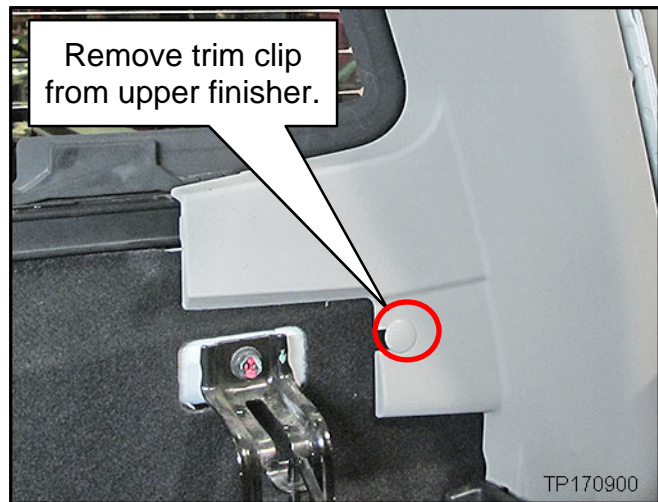

Figure 6
6. Gently remove the trim clip shown in Figure 6.